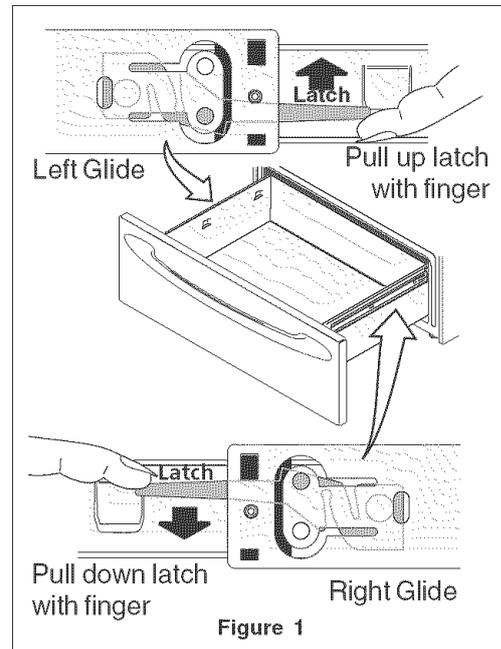

Figure 1
2. Locate glide lever on each side of drawer, pull up on the left glide lever and push down on the right glide lever (See Figure 1).
3. Locate glide lever on each side of drawer, pull up on the left glide lever and push down on the right glide lever (See Figure 1).